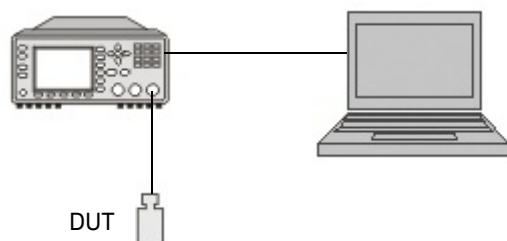

Figure 4-1 Zero set performance verification equipment setup
- 1 Connect the DUT (V/W8486A) to the power meter as shown in Figure 4-1.